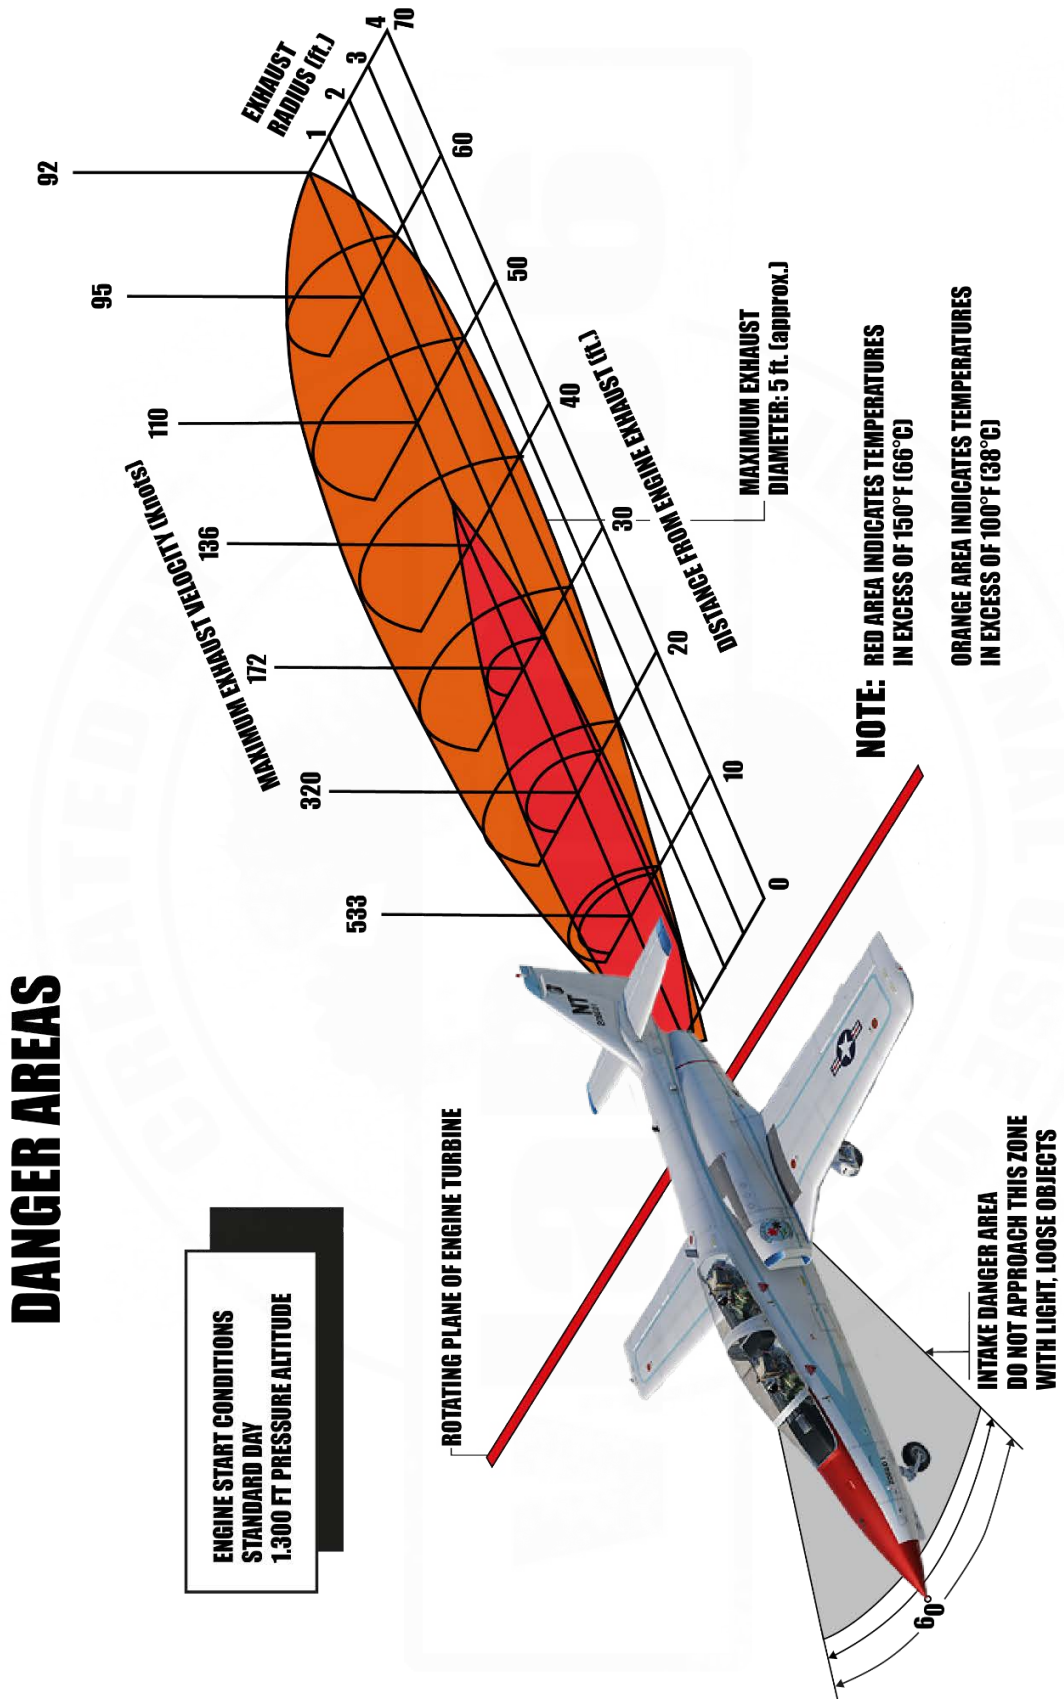

Figure 1: C-101 Engine Danger Areas
1. Area - Clear (see Figure 1)